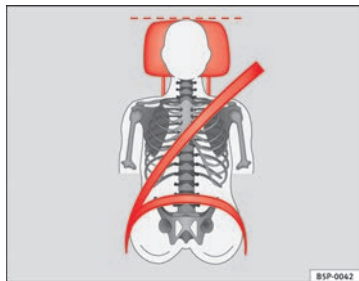

Fig. 13 Correct seat belt and head restraint positions, viewed from front
- The shoulder part of the seat belt must lie on the centre of the shoulder, never across the neck. The seat belt must lie flat and snugly on the torso ⇒ Fig. 13.